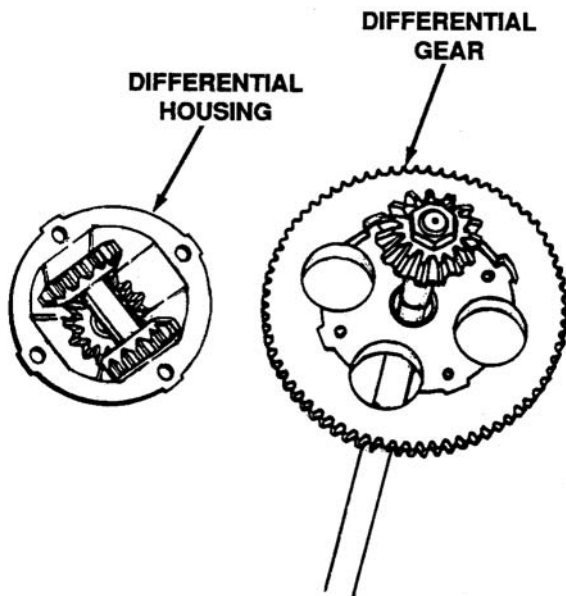

Figure 6-19. Separating Differential Housing and Gear
16. Separate the differential gear from differential housing. See Figure 6-19.